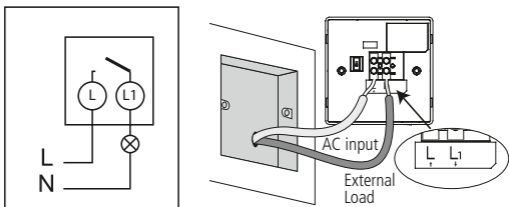

Fig 6 – Connection Diagram
- 5.2 Remove the existing light switch, and transfer the wires to the ST810 (See Fig 6.Connection Diagram).